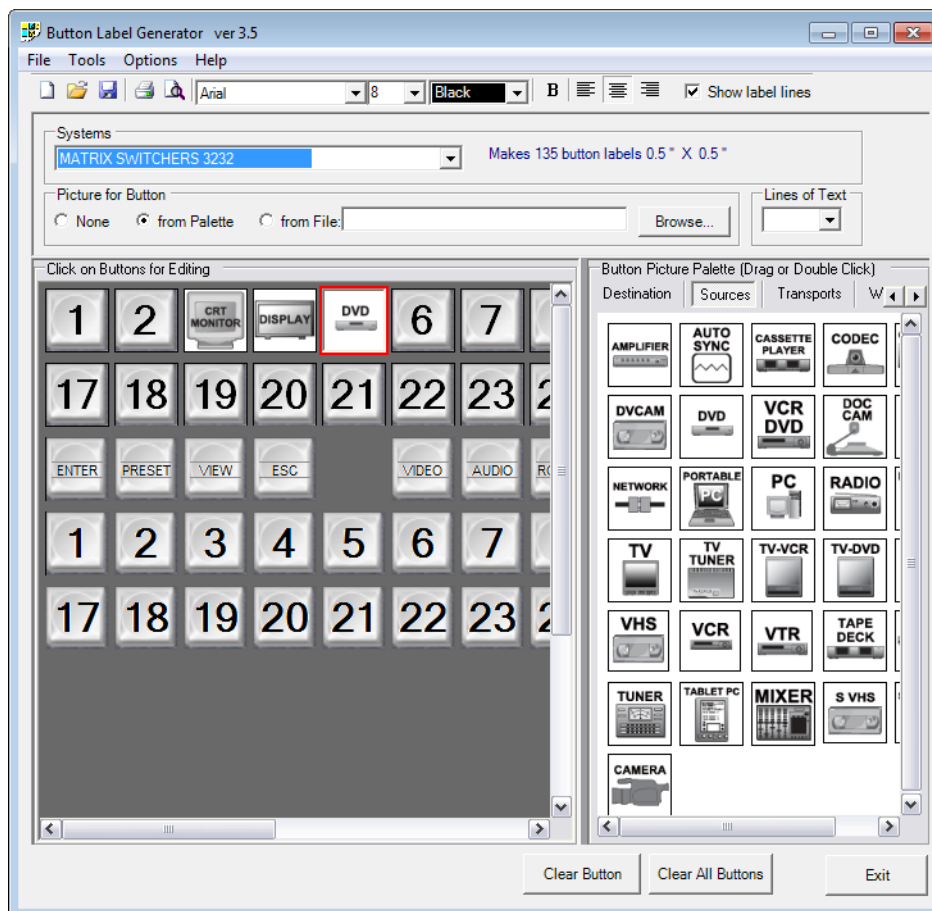

Figure 77. Extron Button-Label Generator Window
1. Click **Start > Programs > Extron Electronics > Button Label Generator > Button Label Generator**. The Button-Label Generator window opens (see figure 77).